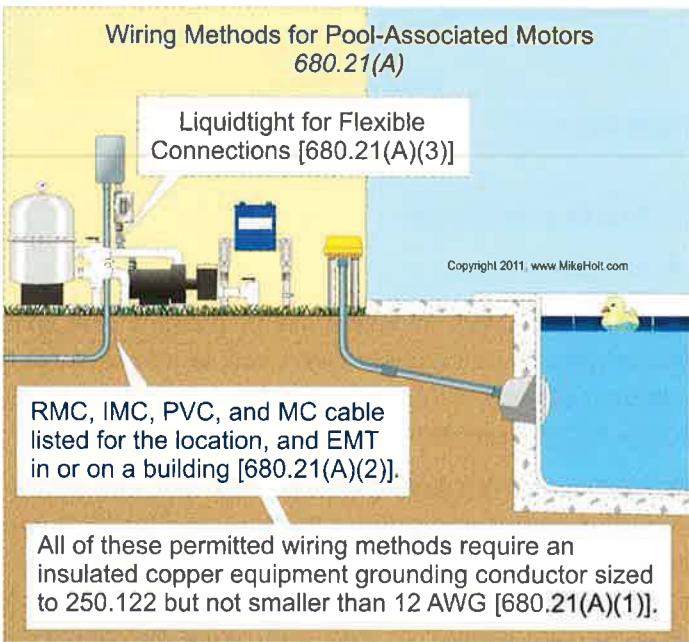

Figure 680-10
(A) Wiring Methods. The wiring to a motor must comply with (A)(1) unless modified by (A)(2), (A)(3), (A)(4), or (A)(5). **Figure 680-10**